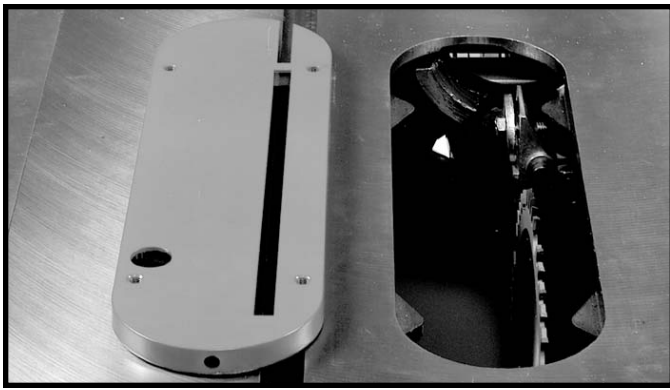

Fig. 11
1. Remove the table insert Fig. 11. Raise the saw arbor, by turning the locking handle on the front of the saw, counter clockwise and then turn the wheel on the front of the saw clockwise as far as it will go, and remove the saw blade from the machine by following the instructions in section "REMOVING THE SAW BLADE".